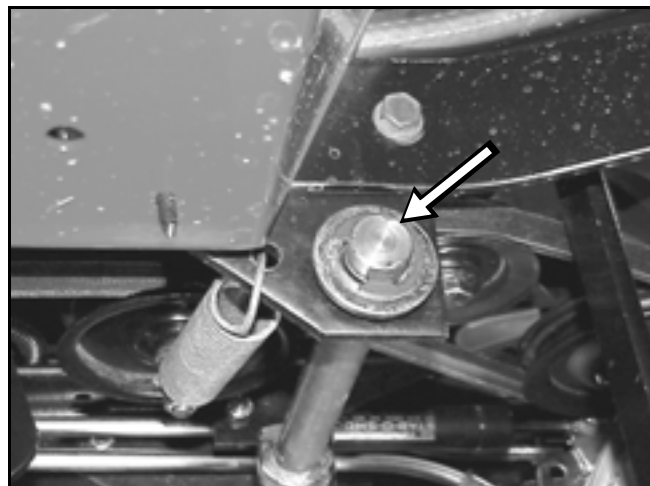

Figure 56
2. Remove the right and left washers and e-rings located on each end of the lift bar assembly (Figure 56).